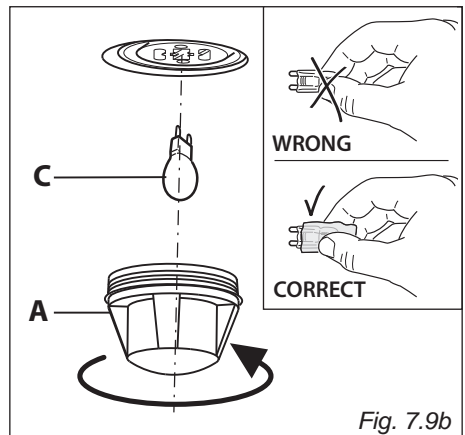

Fig. 7.9b
- Remove the protective cover "A" (fig. 7.9b).